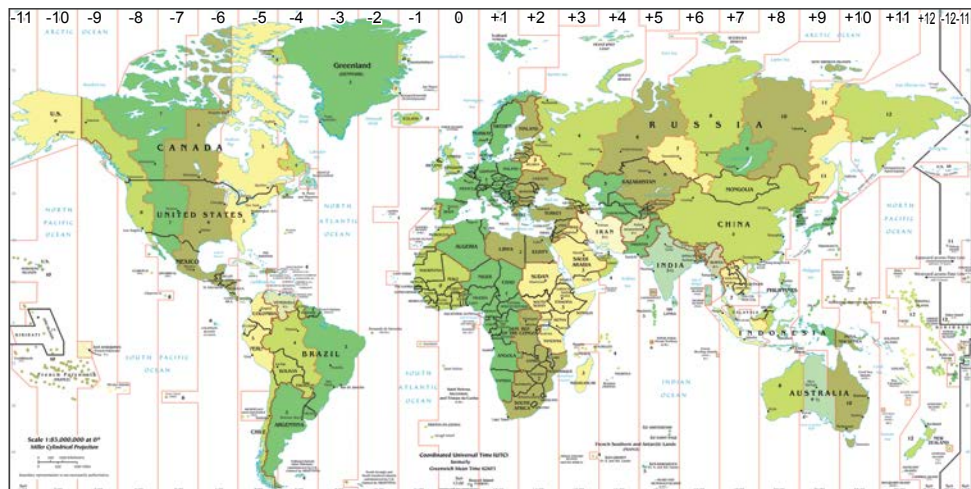

Fig. 26 Time zones
- ▶ Time zone GMT (e.g. +1 in Germany, see Fig. 26)